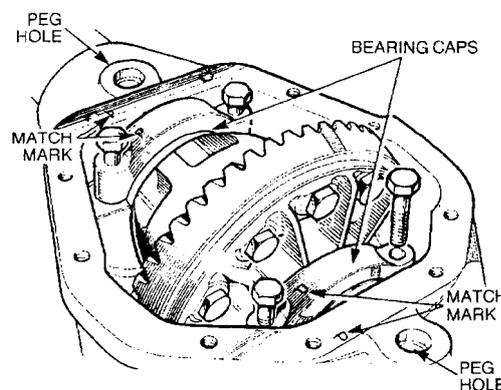

Figure 205 Match marking the Bearing Caps
- e. Match mark the two bearing caps (Figure 205), remove the retaining bolts from the bearing caps and lift out the bearing caps.
- f. Clean debris and excess paint from the two peg holes in the differential housing (Figure 205).